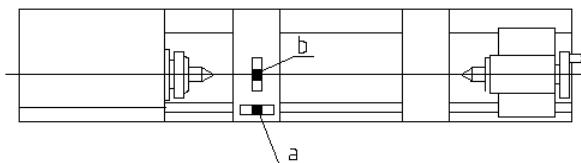

Figure 5 – Leveling
9. Use a machinist's precision level on the bed ways both front to back and side to side, as shown in Figure 5. Take the reading in one direction every 10 inches. Make sure the ways are clean and free of any debris before placing a level upon them.
10. Deviation over bed length(see Figure 5):